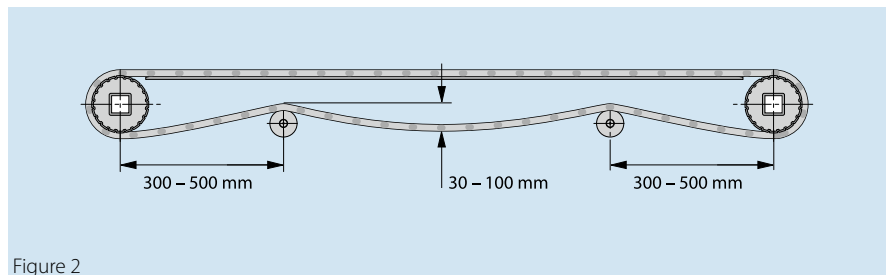

Figure 2
- Medium length conveyors, up to a centre distance of approx. 4,000 mm (fig. 2)